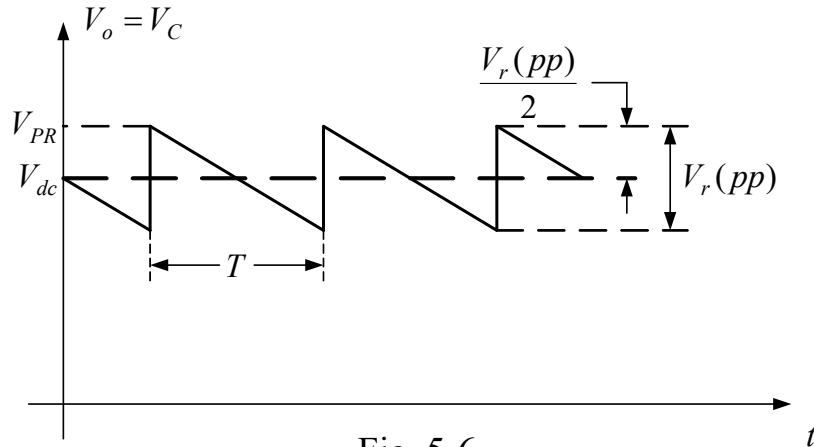

Fig. 5-6
We will now derive an expression for the ripple in the output of a rectifier having a capacitor filter (C) and load resistance (R_L). The derivation that follows is applicable to both HWR and FWR. We can assume that the ripple voltage in a **lightly loaded filter** ($R_L C$ time constant (τ) is large) is a sawtooth wave as illustrated in Fig. 5-6.
From Fig. 5-6, it is apparent that